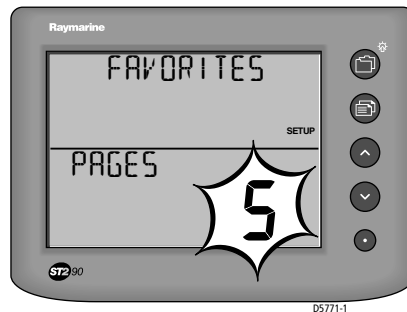

Figure 3-6: Setting required number of Favorite pages
1. In User Setup, select the FAVORITES setup chapter. The PAGES setup page is displayed (see *Figure 3-6*), with the number of Favorite pages flashing, to indicate you can change it.